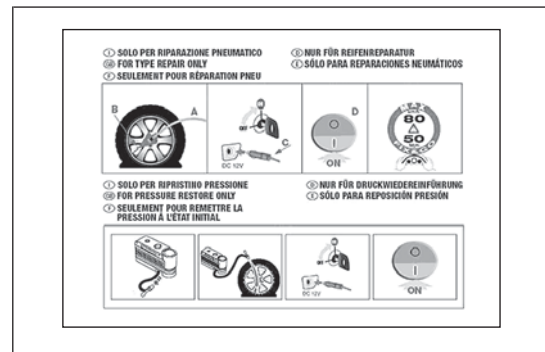

fig. 123
- instruction brochure (see fig. 123), to be used for prompt and correct use of the tyre quick repair kit and then to be handed to the personnel charged with handling the treated tyre;